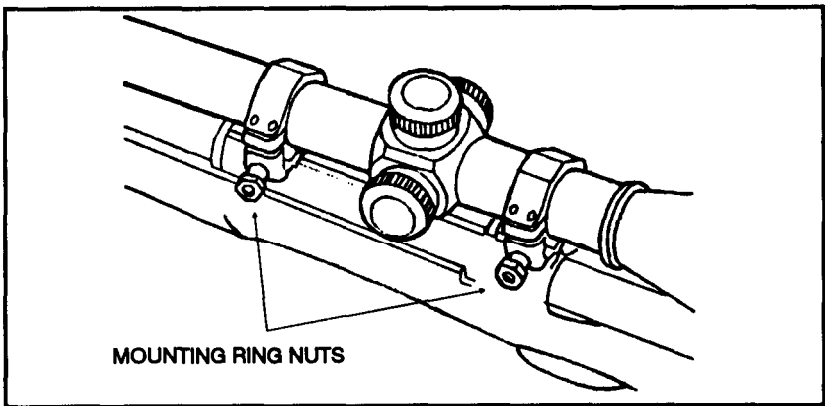

Figure 2-14. Mounting ring nuts.
- d. Use the 1/2-inch combination wrench, loosen the front and rear mounting ring nuts (Figure 2-14) on the scope, and remove the scope.